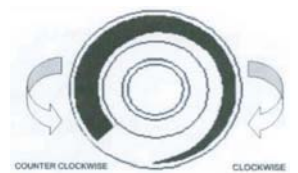

Figure 2.
- To set the thermostat to the lowest temperature, rotate the knob to the full counter-clockwise position. The full clockwise position is the highest temperature setting. (see fig.2)